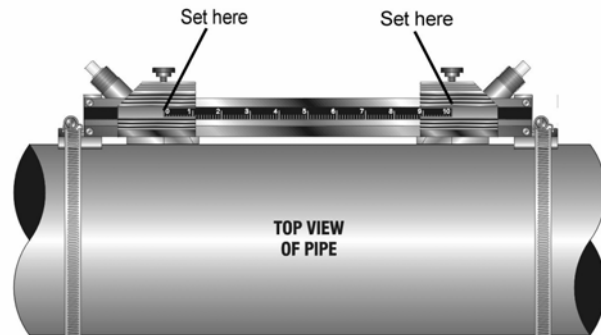

Figure 2.9 Transducer Space Measurement
5. Place the first transducer in between the mounting rails near the zero point on the mounting rail scale. Slide clamp over the transducer. Adjust the clamp/transducer so the notch in the clamp aligns with zero on the scale. See **Figure 2.9**.